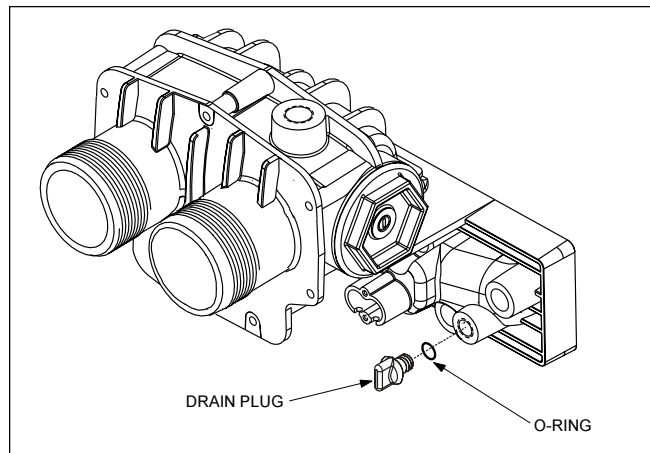

Figure 27. Draining the Heater
4. Remove the drain plug from the right side of the inlet/outlet header (see Figure 27), and completely drain the heater before the first frost.